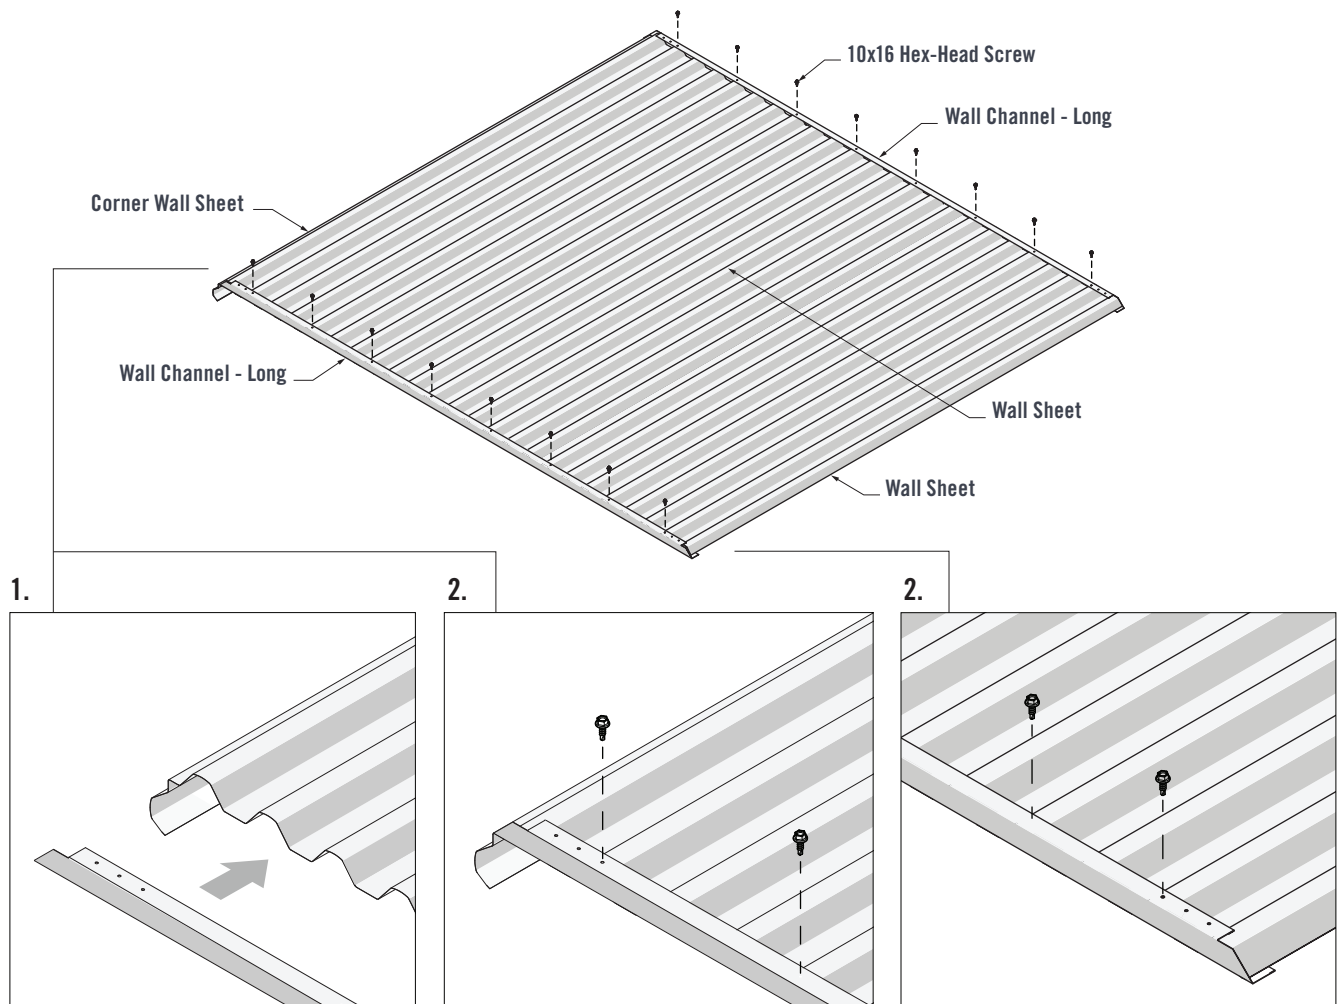

FIGURE 4.2
1. Fit the Wall Channel (Long) over the lapped Wall Sheets. The end of the Wall Channel should fit up against the end of the Corner Wall Sheet (Figure 4.2).
2. Wall Channels have three pilot holes in each end. Fasten through the third pilot hole of both Wall Channel ends and into the Wall Sheet crests. Fasten through the Wall Channels and into every third Wall Sheet crest using six 10x16 Hex-Head Screws in each Wall Channel (Figure 4.2).